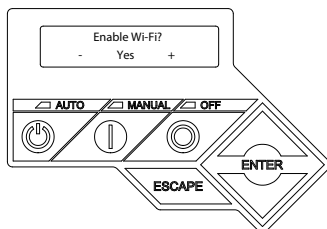

Figure 3-2. Enable/Disable Wi-Fi
2. See Figure 3-2. Use the arrow keys to toggle between "Yes" and "No." Select "No" and press ENTER.